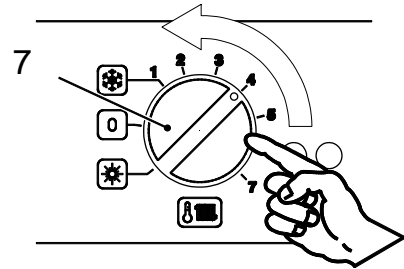

Figure 6.1
- If the ambient temperature is too high, do not alter the radiator valves. Reduce the central heating temperature instead by means of the room thermostat and the knob (7 in Fig. 6.1).